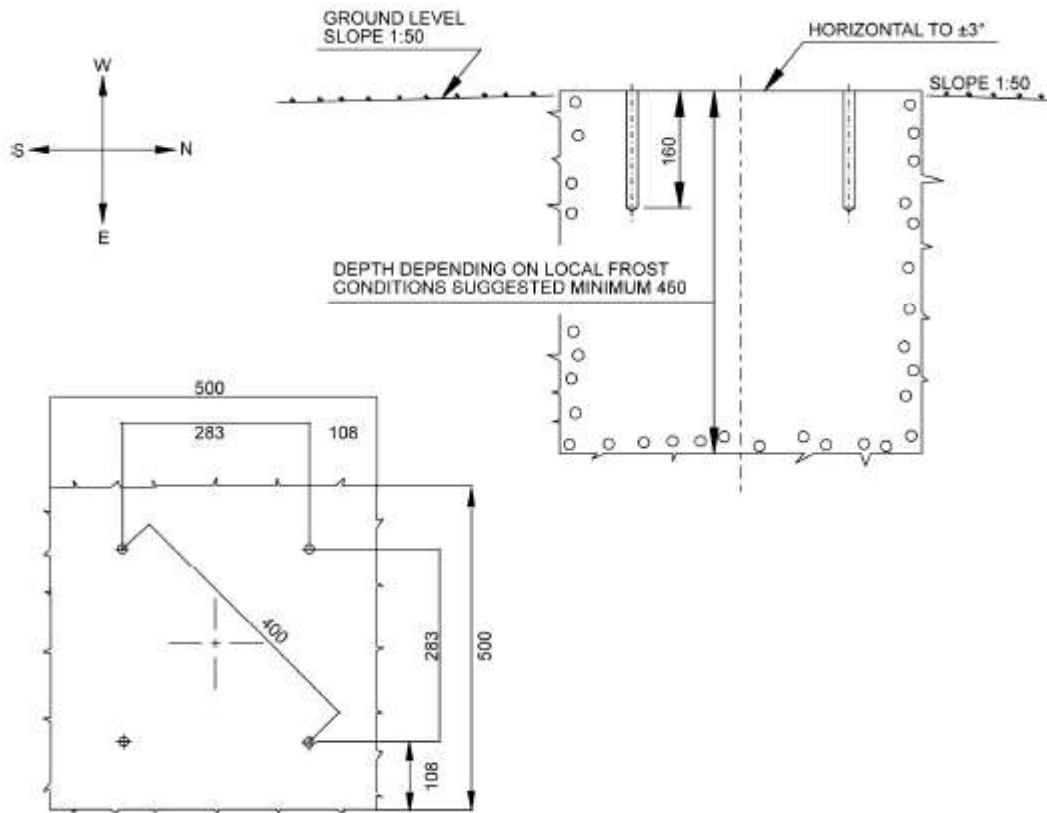

Figure 7. Compass orientation, top view (lower left), and side view (upper right) of recommended CL51 mount
The CL51 may be installed on an existing foundation such as a wooden deck or concrete pad. If a suitable mounting location is not available, a newly poured concrete base is recommended to accommodate the CL51 mounting plate as shown in Figure 7. Align the CL51 base to the four cardinal reference points as shown in the Figure 7.
Referring to Figure 7, the mounting base is approximately 2' x 2' x 2' – approximately 8 ft³ (0.3 cubic yards) and would require approximately 1100 pounds of concrete. For constructing concrete mounts of other sizes, users can calculate the amount of concrete needed using the concrete calculation tool at calculator.net.
1. Use the base plate supplied with the CL51 as the pattern to drill four (4) 12-mm diameter holes to secure it to the concrete pad (or other mounting surface). Orient the plate to the compass as shown in Figure 7.
2. Drill the four (4) holes with a diameter of 0.5 inches (12 mm) to a depth of 6.5 inches (165 mm).